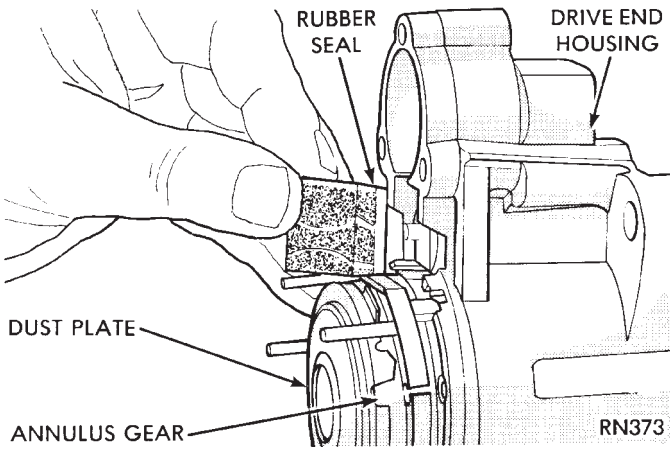

Fig. 20 Rubber Seal
- (3) Remove rubber seal (Fig. 20).